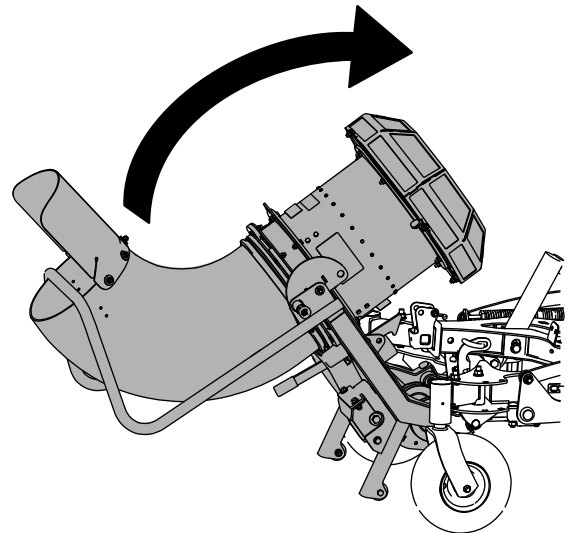
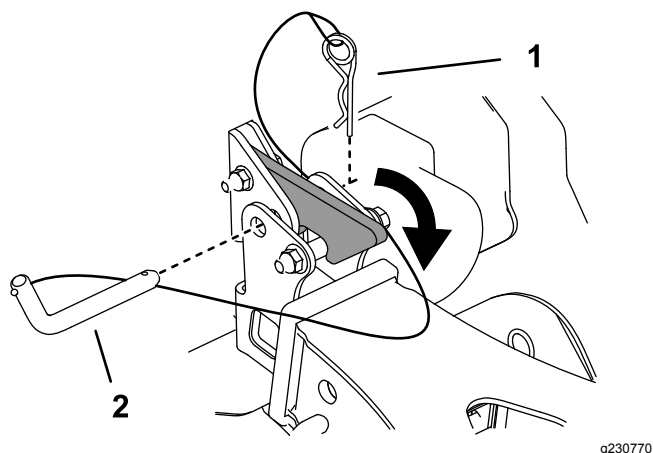

Figure 19
Figure 20
1. Raise the blower so that it latches on the hitch receiver (Figure 19 and Figure 20).
2. Secure the assembly to the hitch receiver using the hitch pin and hairpin cotter attached to the receiver (Figure 20).